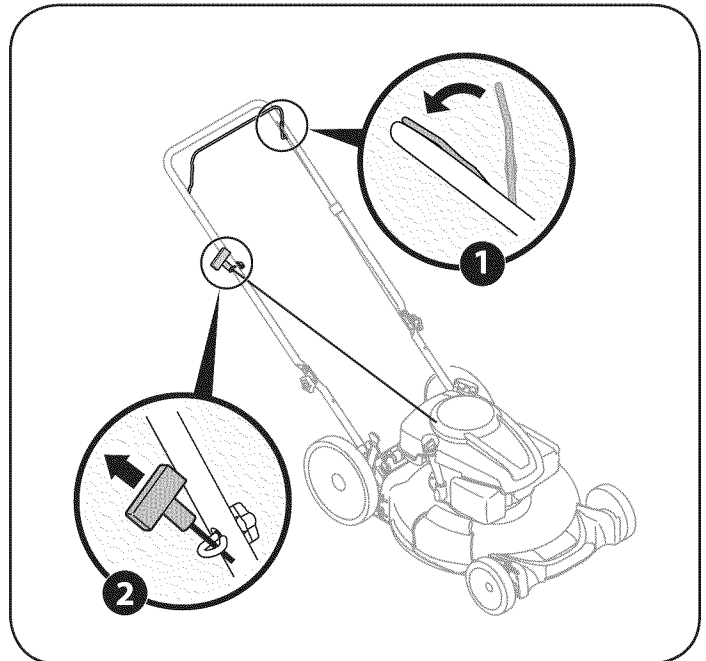

Figure 14
2. Holding these two handles together firmly, grasp recoil starter handle and pull rope slowly until resistance is felt, then pull with a rapid, continuous, full arm stroke. See Figure 14. Keeping a firm grip on the starter cord handle, let the rope rewind slowly. Repeat until engine cranks. Let the rope rewind each time slowly.